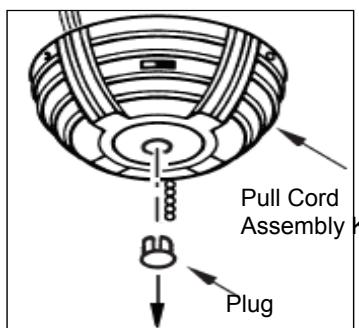

Fig. 10
STEP 1 (Fig. 10)
- Use thumb to push out the plug in the pull cord assembly kit, see figure 10.